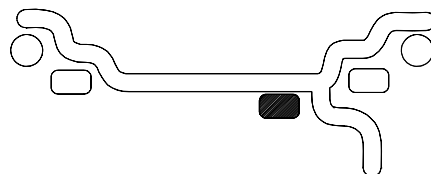

Figure 15
B. STATIC (single plane - Fig. 15). Suggested for narrow rims (3" or less). Use a single corrective weight placed in the center of rim as illustrated in Figure 15.